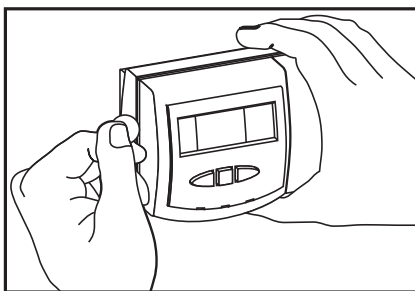

Figure 3
- Remove the cover using a coin or screwdriver (Figure 3). Set aside.